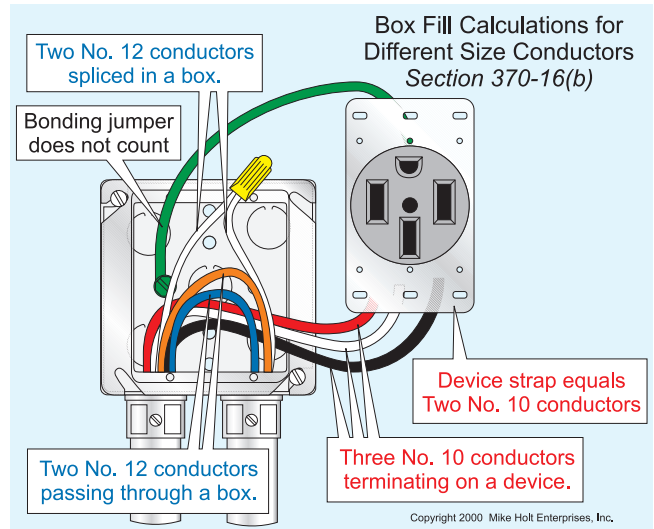

Fig. 1. Box fill requirements when working with different size conductors.
Step 1: First, determine the number and size of conductors and/or their equivalents (Fig. 1).